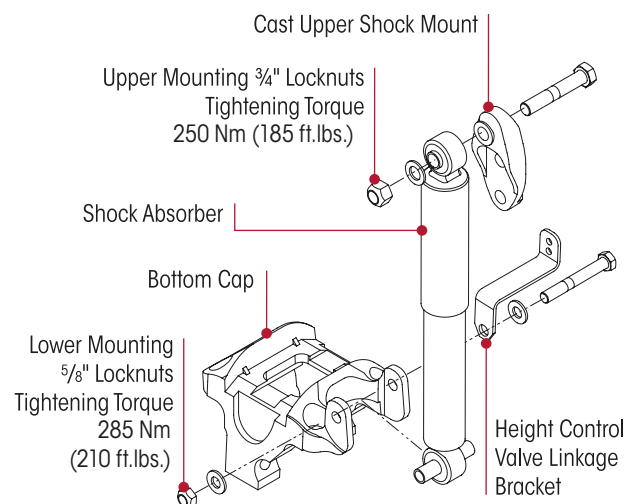

Figure 53: Shock Absorber Mounting
6. Tighten the upper shock absorber mounting locknut to 250 Nm torque. Refer Figure 53. See also "Torque Settings" on page 66.